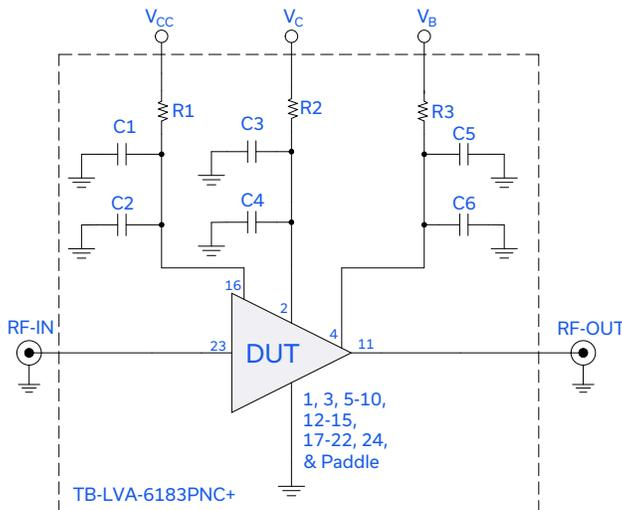

Figure 2. LVA-6183PN+ Characterization and Application Circuit
1. Tested in Mini-Circuits Characterization Test Board TB-LVA-6183PNC+. See Figure 2. De-embedded to the device reference plane.
Note: The following data was taken on the Mini-Circuits Characterization Test Board TB-LVA-6183PNC+ (Figure 2). All data taken at nominal conditions $V_{CC} = +6$ V, $V_C = +6$ V, and $V_B = +5.4$ V unless noted otherwise.
Note: The following data was taken on the Mini-Circuits Characterization Test Board TB-LVA-6183PNC+ (Figure 2). All data taken at nominal conditions $V_{CC} = +6 V$, $V_C = +6 V$, and $V_B = +5.4 V$ unless noted otherwise.
Note: The following data was taken on the Mini-Circuits Characterization Test Board TB-LVA-6183PNC+ (Figure 2). All data taken at nominal conditions $V_{CC} = +6\text{ V}$, $V_C = +6\text{ V}$, and $V_B = +5.4\text{ V}$ unless noted otherwise.